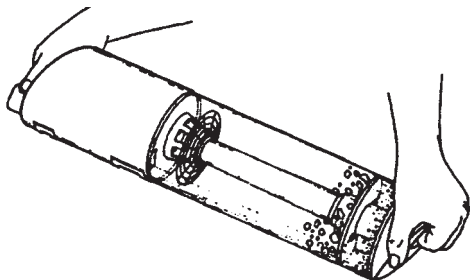

Figure 12b
8. Holding the Carry Handle, grasp the bottom of the Collection Bin. (See Figure 12b.)